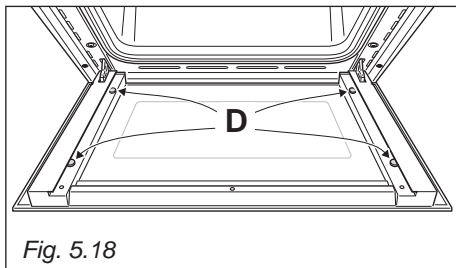

Fig. 5.18
- Check that the four rubber pads are in place ("D" in fig. 5.18).